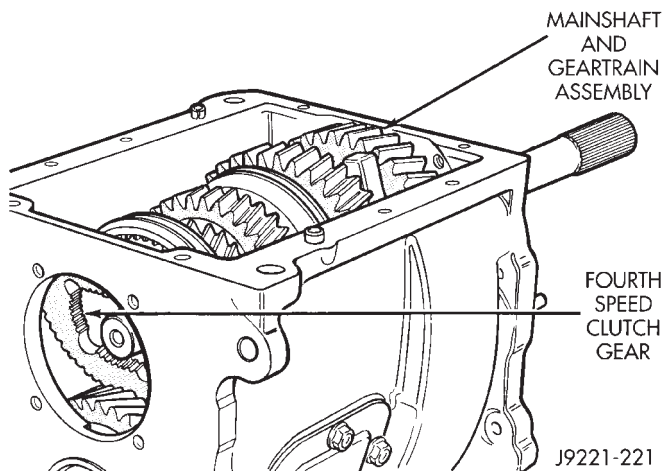

Fig. 121 Mainshaft And Geartrain Installed In Case
- (1) Roll gear case onto its left side.
- (2) Grip mainshaft at pilot bearing hub and just behind reverse gear. Then lift assembly and guide rear of shaft through bearing bore at rear of case.
- (3) Continue holding front of shaft but switch grip at rear to shaft output splines. Lift mainshaft assembly slightly, align gears and seat assembly in case.
- (4) Set transmission case upright (Fig. 121).